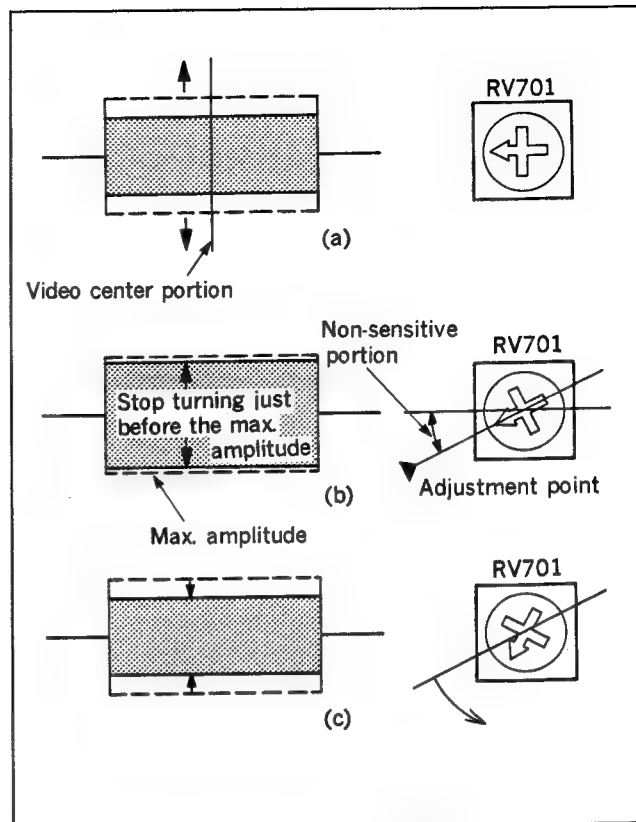

Fig. 6-9-3 RF wave form confirmation by RV701 adjustment
5. Play back the recorded portion at step-1 of the tape, maximize the RF wave shape (video center portion) by using RV701 on SST-2 board. (See Fig. 6-9-3 (a).)
6. Turn RV701 to counterclockwise direction, and confirm the RF wave shape decreases. (See Fig. 6-9-3 (c).)
7. Turn again RV701 to clockwise direction, and stop the turning just before the maximum amplitude of the wave shape. (See Fig. 6-9-3 (b).)